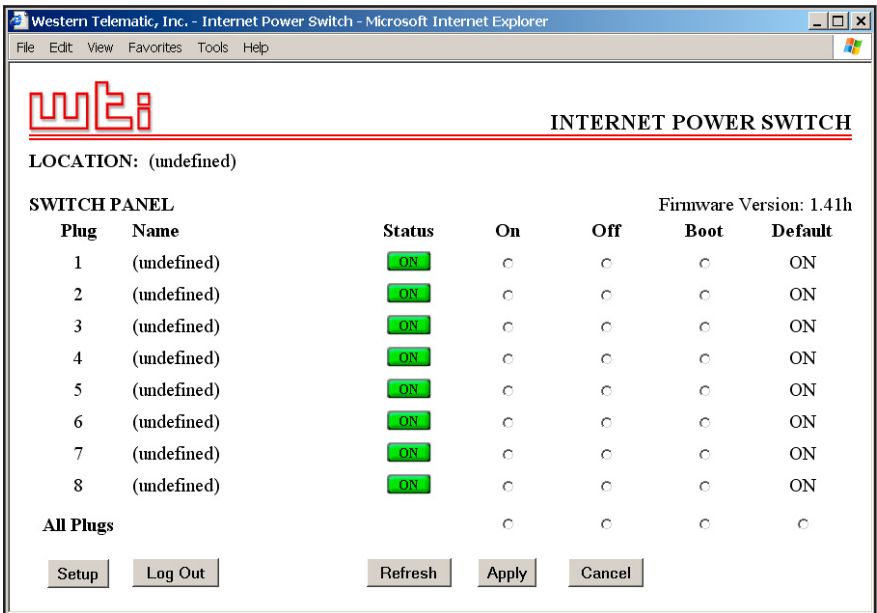

Figure 3.1: Plug Status Screen - Web Browser Interface (Model IPS-800-D20 Shown)
- a) **Web Browser Interface:** Start your JavaScript enabled Web Browser. Enter the IPS's default IP address (192.168.168.168) in your browser address bar and then press **[Enter]**. A password prompt will be displayed. Since at this point, the user name and password have not yet been defined, you can simply click OK without keying in a user name or password. The Plug Status Screen will be displayed as shown in Figure 3.1.